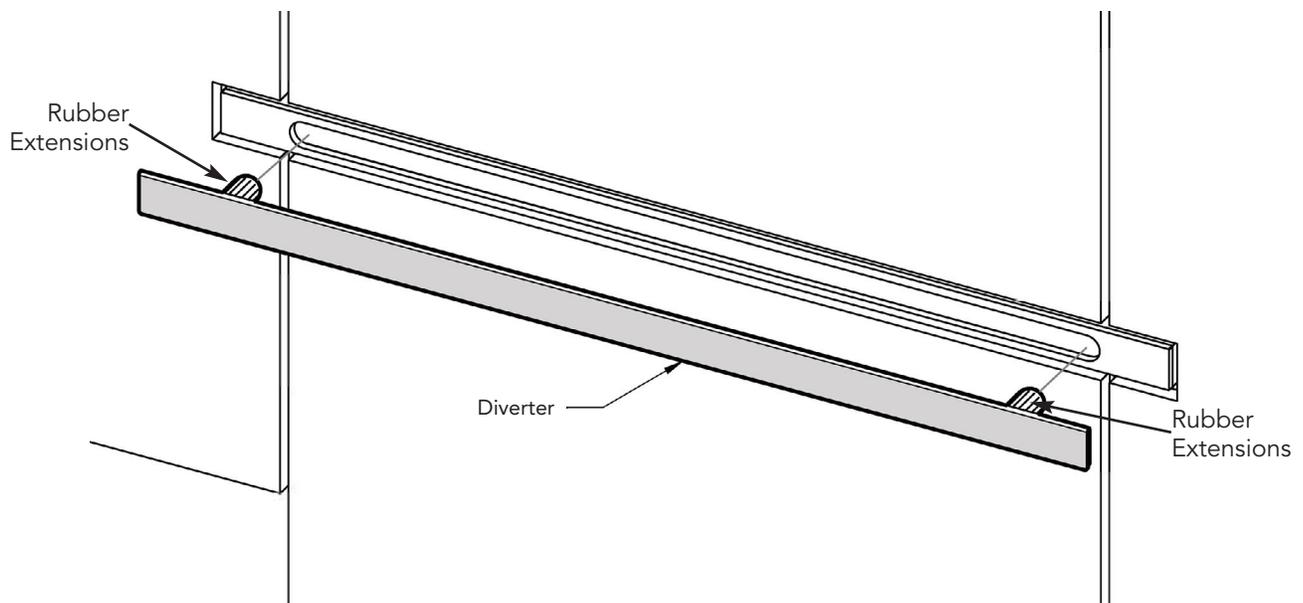

Figure 7
STEP 1. Securely press the two rubber extensions into the opening of Linear Steam Head and push in firmly until the diverter is securely in place. (see Fig. 7).